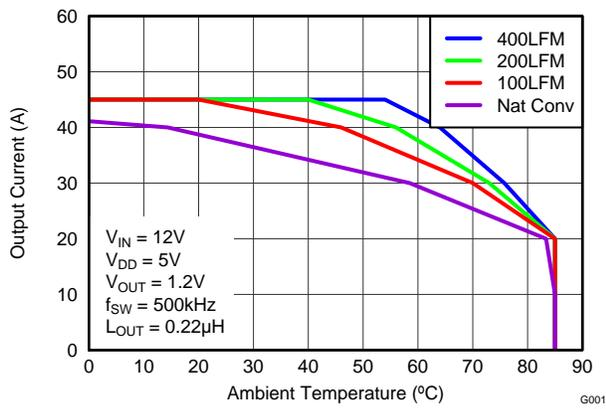
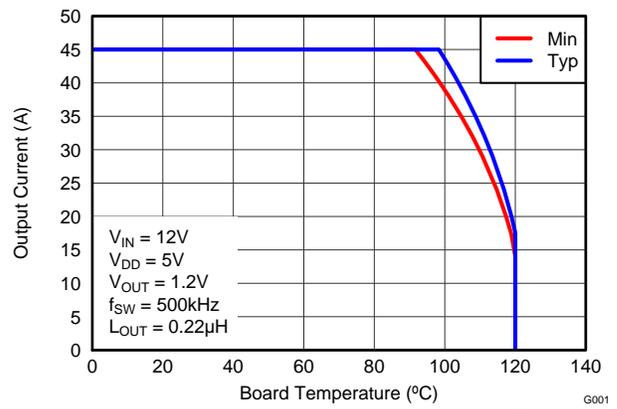

Figure 5. Safe Operating Area – PCB Horizontal Mount (1)
Figure 6. Typical Safe Operating Area (1)
The SOA curves in the CSD95373AQ5M data sheet give engineers guidance on the temperature boundaries within an operating system by incorporating the thermal resistance and system power loss. Figure 5 and Figure 6 outline the temperature and airflow conditions required for a given load current. The area under the curve dictates the safe operating area. All the curves are based on measurements made on a PCB design with dimensions of 4.0" (W) x 3.5" (L) x 0.062" (T) and 6 copper layers of 1 oz. copper thickness.